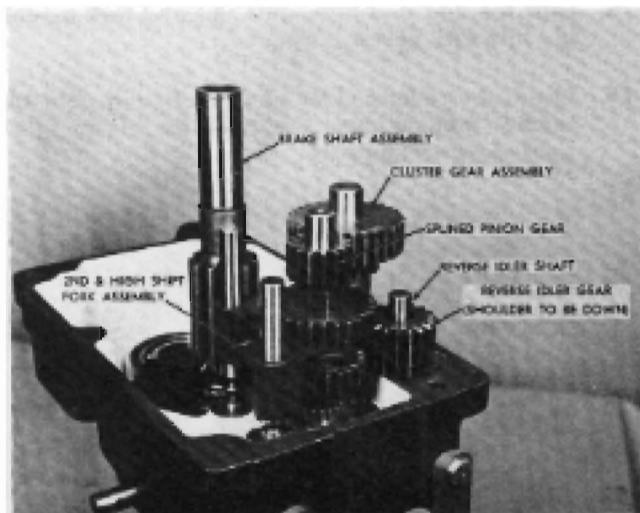

FIGURE 18
17. Install the cluster gear assembly. See Figure 18.